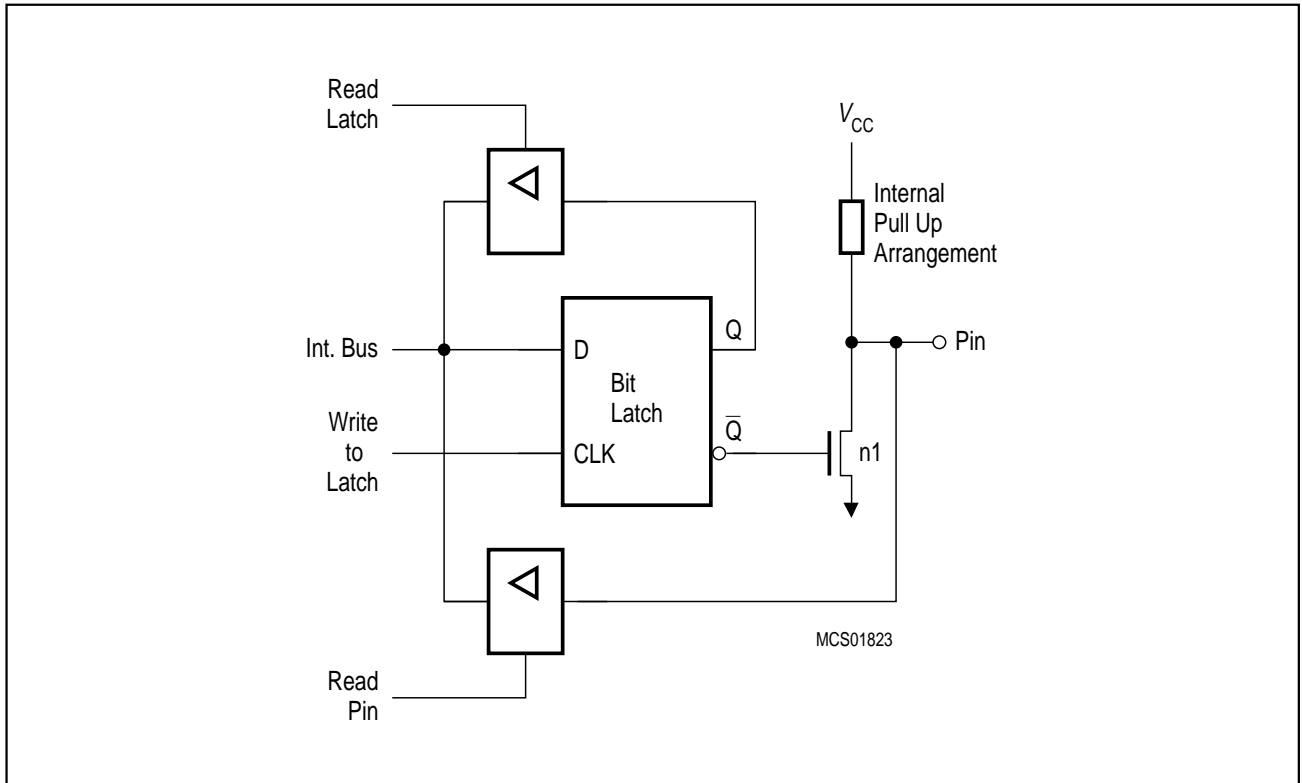
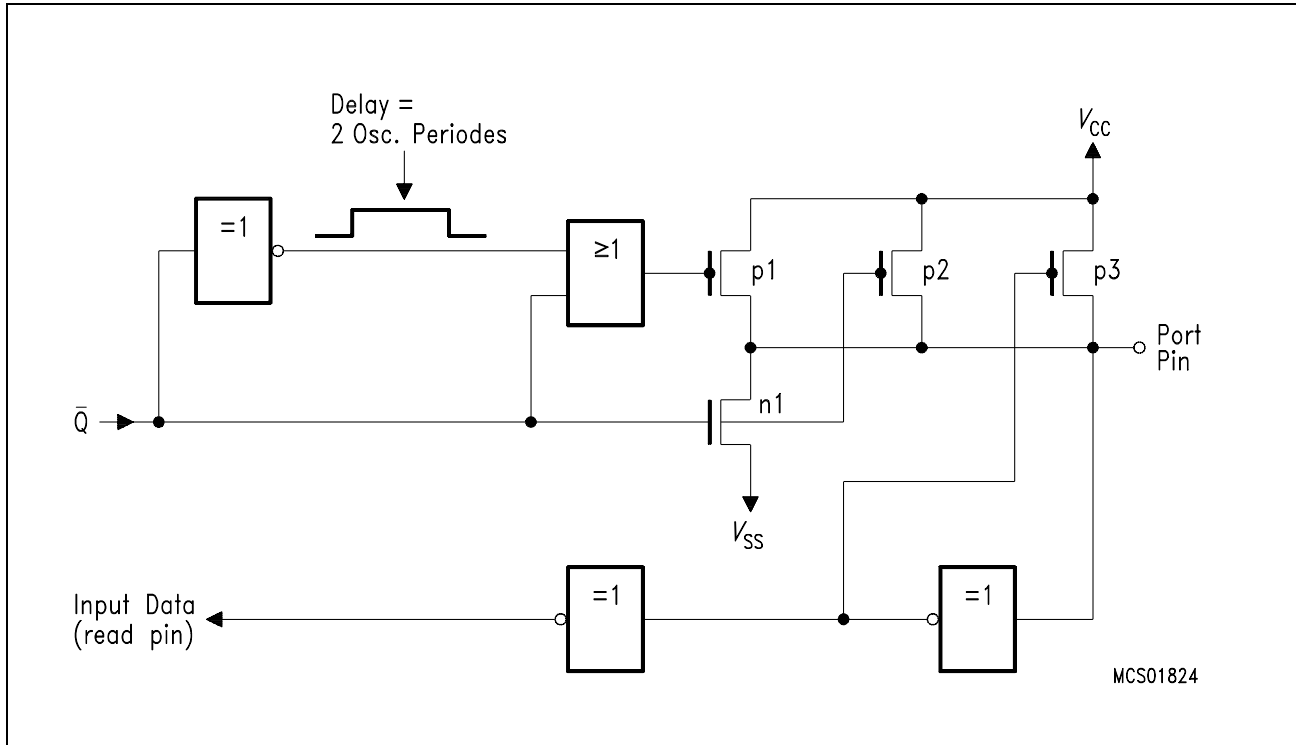

Figure 6-2
Figure 6-3
Port 1, 2 and 3 output drivers have internal pullup FET's (**see figure 6-2**). Each I/O line can be used independently as an input or output. To be used as an input, the port bit must contain a one (1) (that means for **figure 6-2**: $\bar{Q}=0$), which turns off the output driver FET n1. Then, for ports 1, 2 and 3, the pin is pulled high by the internal pullups, but can be pulled low by an external source. When externally pulled low the port pins source current (I_{IL} or I_{TL}). For this reason these ports are sometimes called "quasi-bidirectional".
In fact, the pullups mentioned before and included in **figure 6-2** are pullup arrangements shown in **figure 6-3**. One n-channel pulldown FET and three pullup FETs are used: